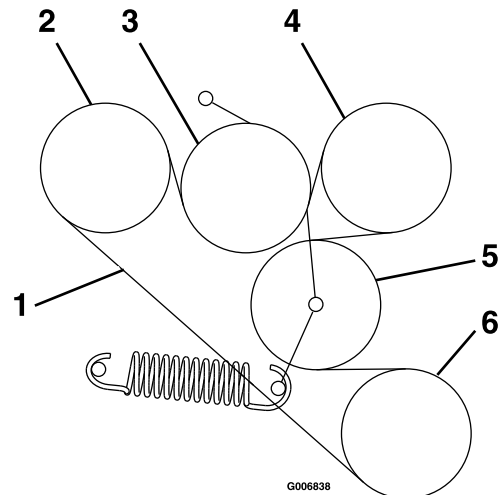

Figure 58
6. Route the new belt onto the sheaves as shown in the decal located on the back of the left drive shield (Figure 58).